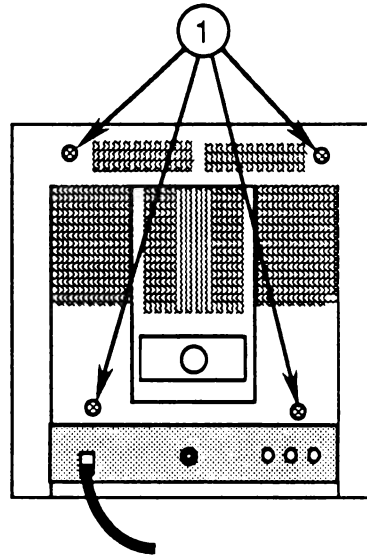

FIGURE 11
3. Replace the four screws (Figure 11, #1) on the back of the monitor.